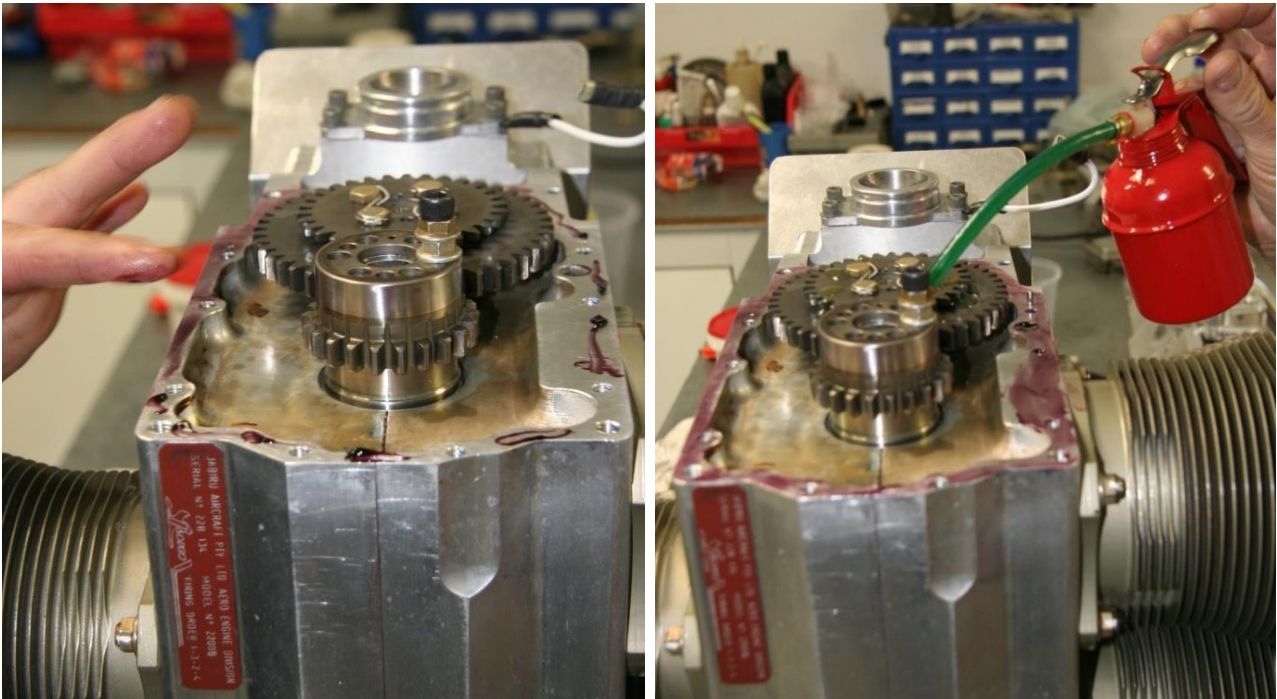

Figure 174 – Sealing Engine Mount Plate
- Apply Loctite 515 sealant to the rear of the crankcase and sump as shown in Figure 174. The cam drive gears should also be lubricated with oil now, before the gear cover is fitted.